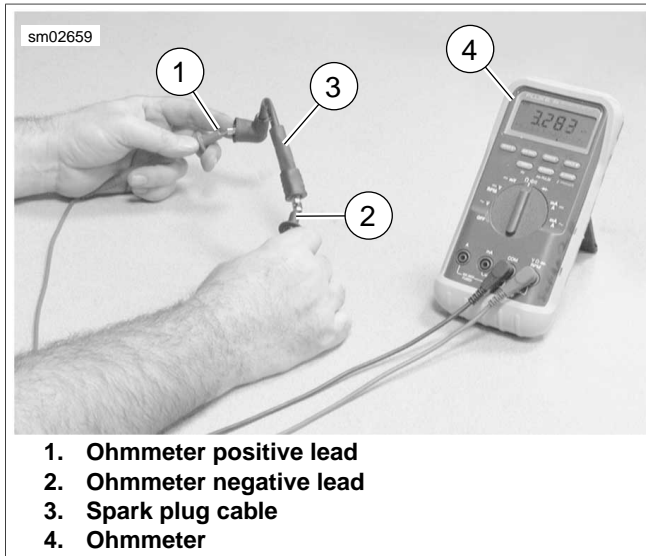

Figure 1-44. Testing Resistance
3. See Figure 1-44. Check spark plug cable resistance with an ohmmeter. Compare values from test with Table 1-15. Replace cables not meeting resistance specifications.